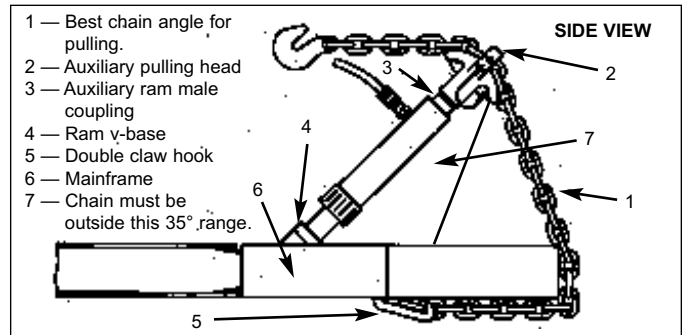

Figure 8
2. Secure v-base attachment, male coupling and auxiliary pulling head to 6 inch (150 mm) auxiliary ram. (See Figure 8.)
1. To avoid damage to auxiliary ram from side loading, assemble components as shown in Figure 8. Auxiliary pulling head must be positioned inward from outer edge of mainframe.
**CAUTION:** Always attach V-base to piston end of ram. (See Figures 8 and 9.) DO NOT add extension tubing to piston end of ram.